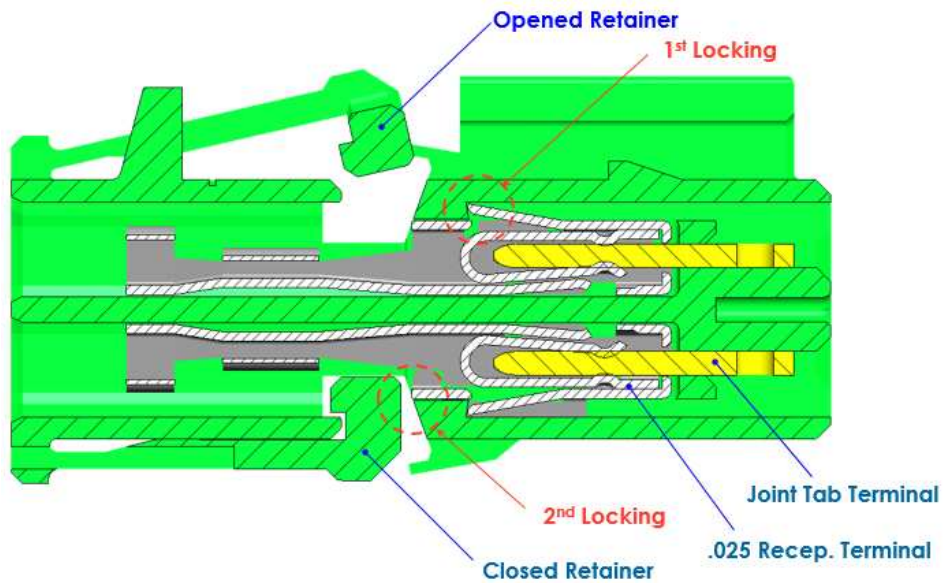

Figure 11
2. Ensure that the retainer is open. See Figure 11.